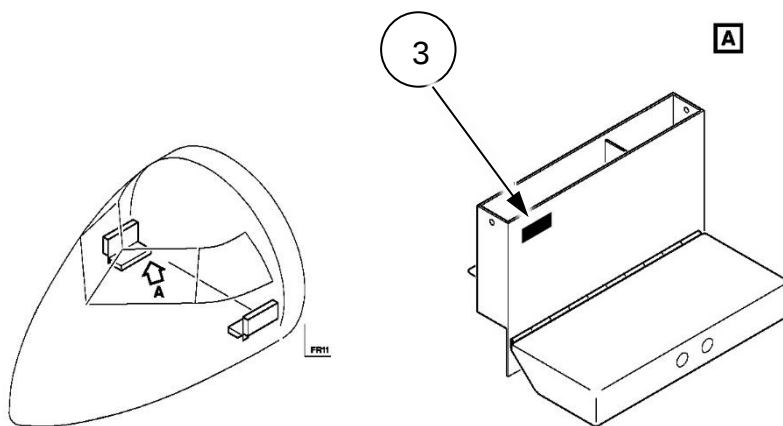

Figure 2: Installation of placards “NO PED STOWAGE” (RH shown, LH mirrored)
- 3) Apply the "NO PED STOWAGE" placard P/N 001A113A1012206 (Item 3) on the LH Cockpit stowage box. Ref. Figure 2
- 4) Apply the "NO PED STOWAGE" placard P/N 001A113A1012206 (Item 3) on the RH Cockpit stowage box. Ref. Figure 2